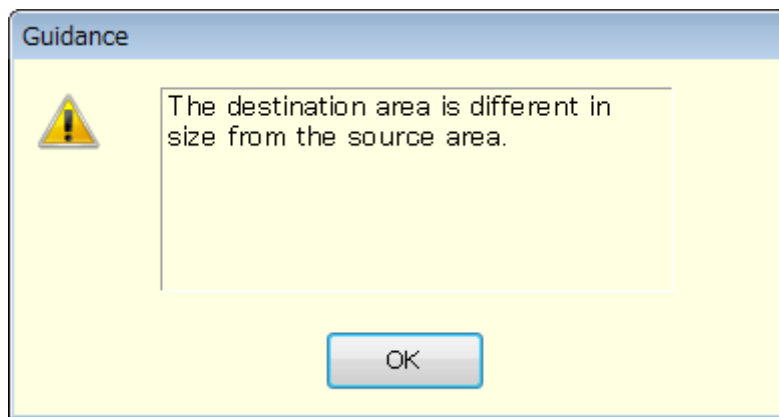

Figure 5-8 Error Dialog for Copying Data
- Row numbers and column items should be matched between the destination data range to be pasted and the source data range that was copied to the clip board. If the data ranges do not match, the error dialog shown in Figure 5-8 appears.